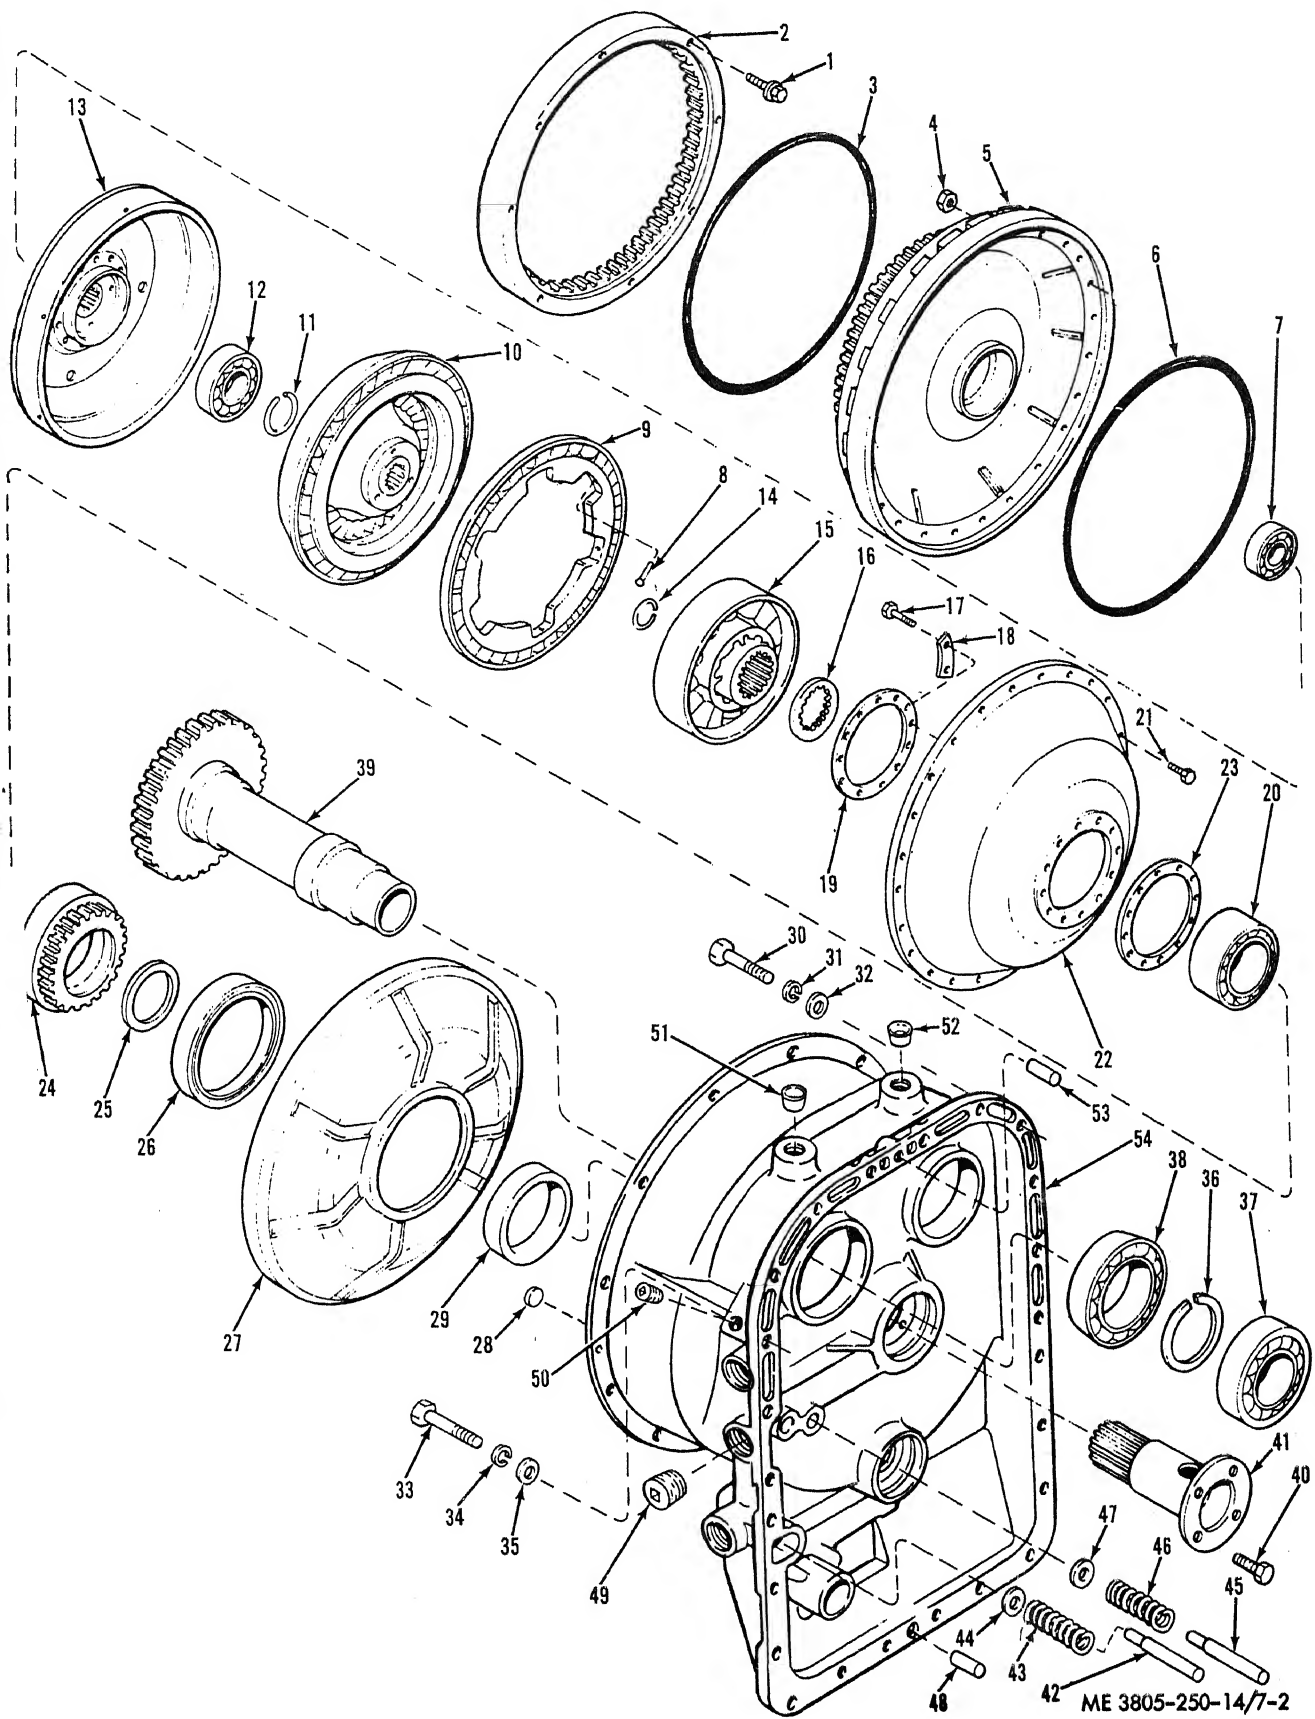

Figure 7-2. Torque converter, exploded view.
### b. Disassembly. Refer to figure 7-2.
KEY to fig. 7-2:
(3) Remove burrs, scratches and light scoring from machined surfaces with a soft honing stone or crocus cloth. Replace any damaged or badly worn parts. Replace worn or damaged bearings. Replace all gaskets and seals.
*d. Reassembly.* Refer to figure 7-2.
(1) Install dowel pins (48 and 53), if removed. Press pins in housing (54) until they project  $0.440 \pm 0.010$  inch above the housing surface.
(2) Install plugs (28, 49, 50, 51 and 52) if they were removed. Press plugs (51 and 52) into the housing until they are a minimum of 0.03 inch below the surface. Drive plug (28) flat side first into its bore until it seats against the shoulder in the bore.
(3) Assemble lubrication regulator valve (44) and spring (43) to pin (42). Press the pin into the housing until it is flush to 0.010 inch below the housing surface.
(4) Assemble the pressure regulator valve (47), and spring (46) to pin (45). Press the pin into the housing until it projects  $1.19 \pm 0.01$  inch above the valve seat.
(5) Chill the converter ground sleeve (41) in dry ice for at least one hour. Align the bolt holes in the sleeve with those in the housing, and press the sleeve into the housing. Install bolts (40) and tighten to 17 to 20 pound-feet.
(6) Install bearing (38) on drive gear (39) with the retaining ring groove away from the gear.
(7) Press bearing (37) on the drive gear. Install the gear and bearing assembly onto the front of the housing and secure it with retaining ring (36).
(8) Heat converter housing sleeve (29) and press it onto the housing hub, seal ring groove side last. Install a new seal ring (25). Use oil-soluble grease to retain the seal.
(9) Coat the outer rim of the diaphragm assembly (27) with nonhardening sealer, and start it, convex side first into the housing. The arrow on the diaphragm must point toward the bottom of the housing. Use a wood block contoured to the surface of the diaphragm and a soft hammer to drive the diaphragm into position. Move the block evenly around the diaphragm circumference, driving slightly at each position.